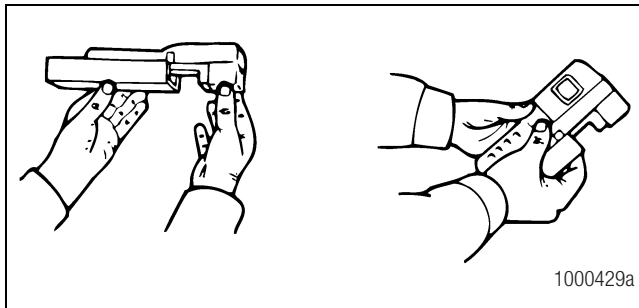

Figure 3.11
- Slide the WABCO cartridge into the Pro-Link® keypad until the connection is tight. Figure 3.11.